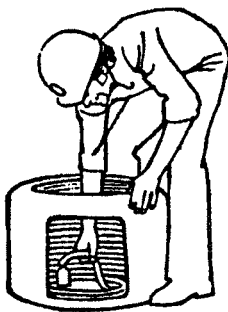

Fig. 2-1 Procedure to Uncoll New Manila
2. Uncoiling. The biggest problem faced when opening a new coil of rope is deciding which side of the coil the bitter end should be drawn through. If properly packaged, the rope will reeve from the center of the coil and lie reasonably free of kinks. The following procedure should remove some of the mystery of proper uncoiling: First, remember that manila must be coiled in a clockwise direction and uncoiled in a counterclockwise direction. Now look into the center of the coil and locate the bitter end. It should be marked at the rope walk with a tag (which frequently becomes lost). Study the direction in which the last few feet of rope are wound and visualize it unwinding. If you were to reach into the center of the coil and pull the bitter-end towards you would it unwind in a counterclockwise direction? If not, turn the coil so it will. This is the key; as the end of the rope is pulled out it must reeve off the coil in a counterclockwise direction motion. (See Figure 2-1.)